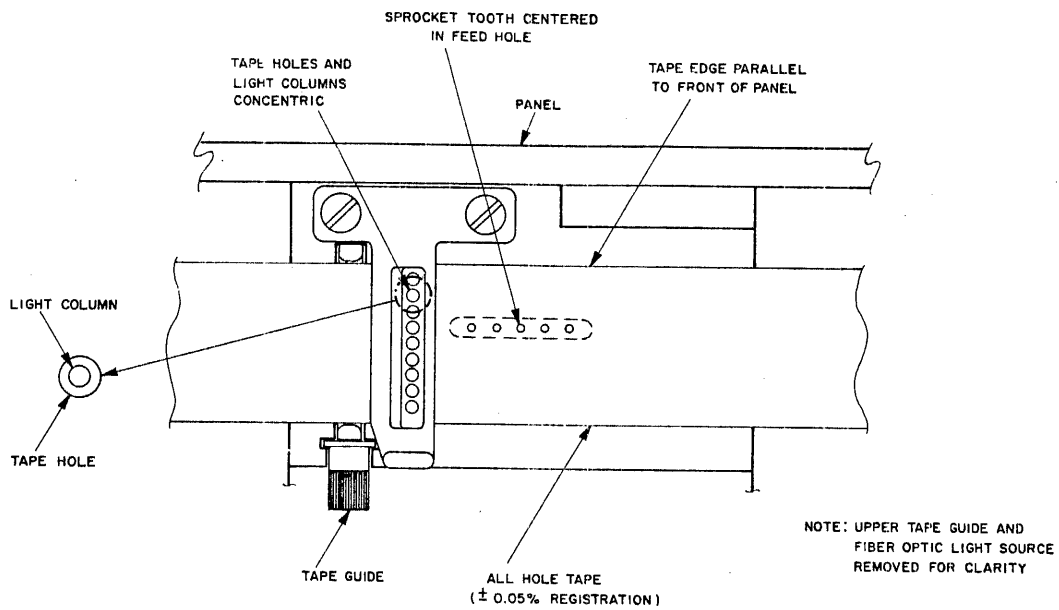

Figure 5-3. Alignment of the Sprocket with the Light Columns.
- e. Loosen nut (T) which holds the fiber optics light source to the reader panel and rotate the light source away from the light tunnels.
- f. With the rear edge of the tape parallel to the front panel, align the holes over the light columns in the readout assembly so that they are concentric. See Figure 5-3. The tape must remain parallel to the front panel so that no skew is present. With the tape in this position, the sprocket teeth should be centered in the sprocket holes in the tape. Skewing is indicated by tracks 1 and 8 not being concentric.
- g. If the condition of step f does not exist, loosen the set screw (J) which holds the sprocket to the motor shaft and move the sprocket in or out on the shaft until the teeth are centered in the feed holes and the tape holes remain concentric with the light tunnels. Tighten screw (J). Recheck the adjustment and readjust as required. Some models may have two set screws.
- i. Loosen the single screw (S) which holds the motor to the heat sink.
- m. make sure jack screw (E) is not protruding below the surface of the Upper Tape Guide.